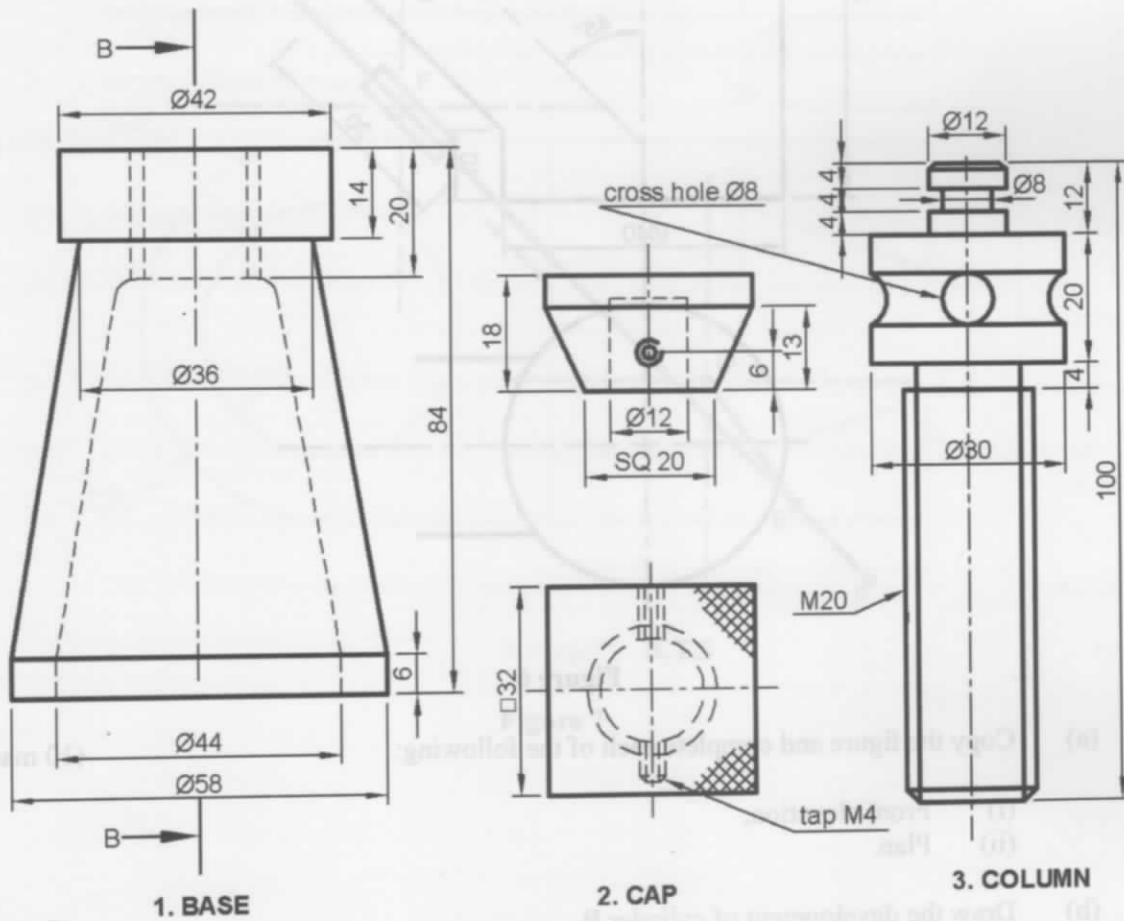

Figure 5
11. Figure 5 shows details of a screw jack. Assemble the parts and draw Full Size the following views: (20 marks)